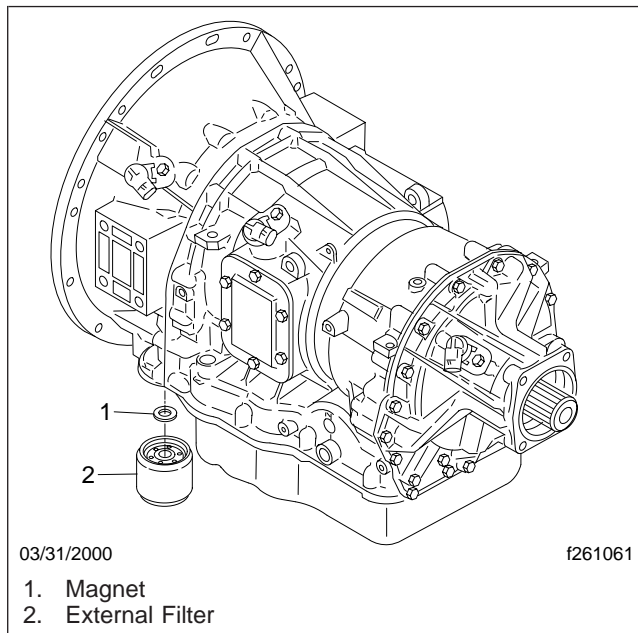

Fig. 4, 1000/2000/2400 Series Transmission External Filter
4. Place a drain pan under the external filter. See Fig. 4. Remove the external filter with a strap type filter wrench by turning it counterclockwise.